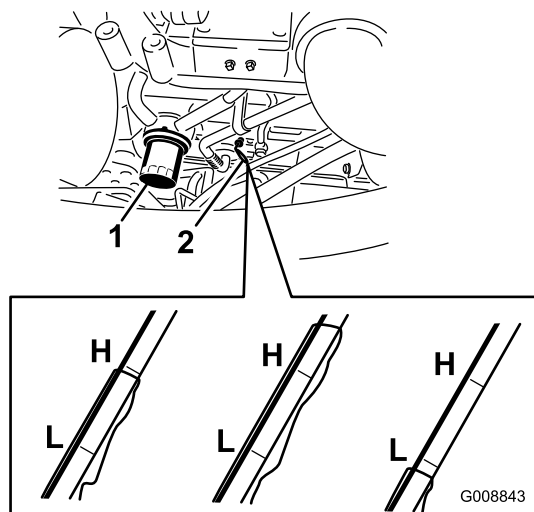

Figure 59
2. Remove the dipstick, wipe it clean, install it into the tube, and pull it out again (Figure 59).
3. Remove the oil filter (Figure 59).